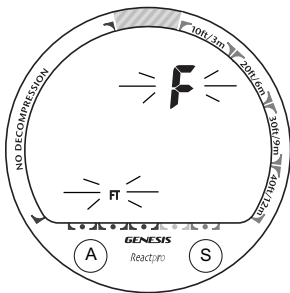

Fig. 22 - Set Units
- While viewing the Set 2 screen, press/release the A (left) button momentarily (< 2 sec), release when the Set Units screen appears with the Set Point flashing (Fig. 22).